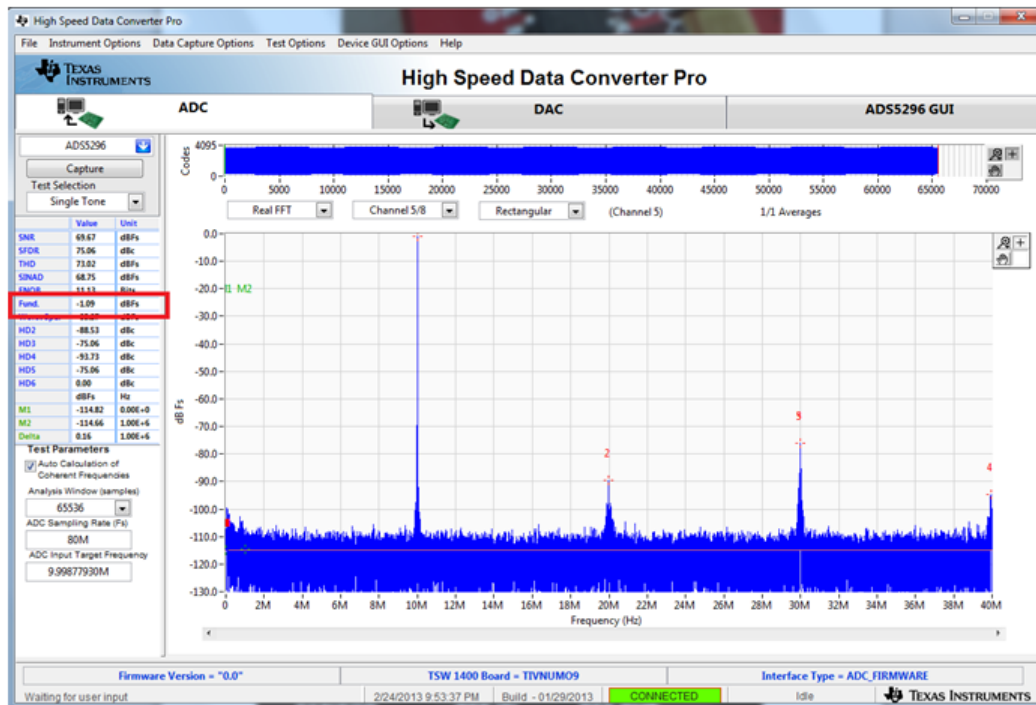

Figure 41. Octal Non-Interleaving Mode Capture 1
- The plot will update as shown in Figure 41. Take note of the *Fund.* value in the left panel highlighted in RED in Figure 41. This value is dependent on the signal level set on the signal generator feeding the input signal to J15. It also depends on cable loss and filter insertion loss which can vary among parts. If needed, reset the signal amplitude (level) until the *Fund.* value is approximately -1.0 dBFs, as this is the condition for which the datasheet specifications are set. In the example shown here, the input level should be changed from 15.0 dBm to 15.1 dBm and then a capture retaken.